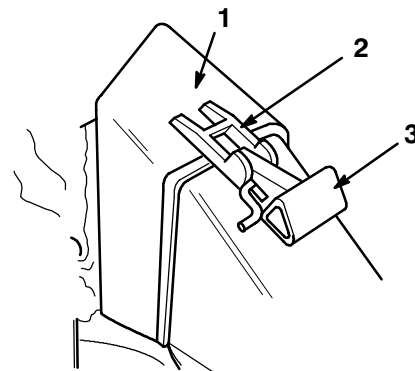

Figure 16
2. Ensure that the discharge door handle is fully forward (door closed) as shown in Figure 16.
Note: In Figure 16, the brush guard is not shown for the purpose of clarity.
3. Fit the bag door opening over the discharge tunnel opening as shown in Figure 16.